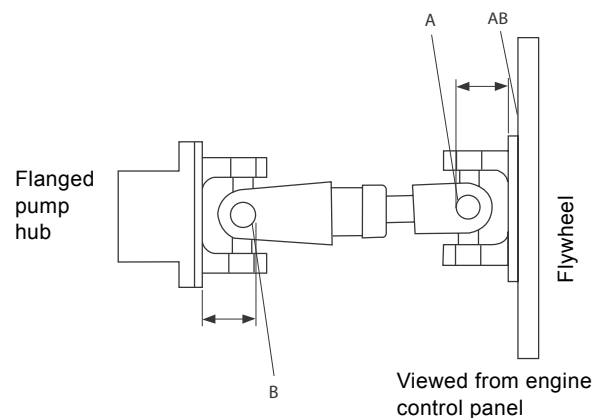

Fig. 30 Horizontal alignment
1. Rotate the shaft so that the reference "AB" on the flywheel disc or the circumference of the drive shaft flange (against the flywheel) is in 12 o'clock position. See fig. 30.
2. Measure from the rear face of the flywheel drive disc or the drive shaft flange to point A. See fig. 30. The value must be as stated in the table above.
2. Measure from the front face of the drive shaft flange on the pump end to point B. See fig. 30. This measurement must be equal to the measurement at point A ± 1 mm.